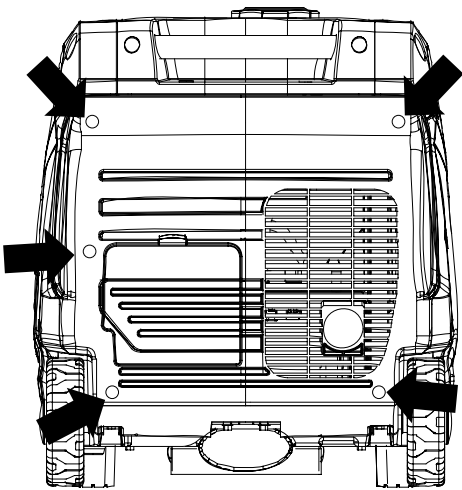

Figure 18: Remove muffler access panel
- 3. Remove the screws holding the muffler cover in place (see Figure 18).